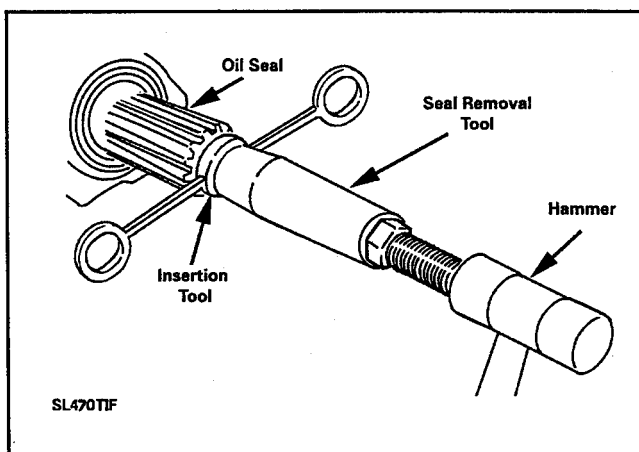

Figure 7-7e
6. Slide the transmission seal driver (tool number **2000021**) over the drive shaft until it makes contact with the drive washer. Use a hammer to "tap" the seal into the end of the drive tube (*Figure 7-7e*).